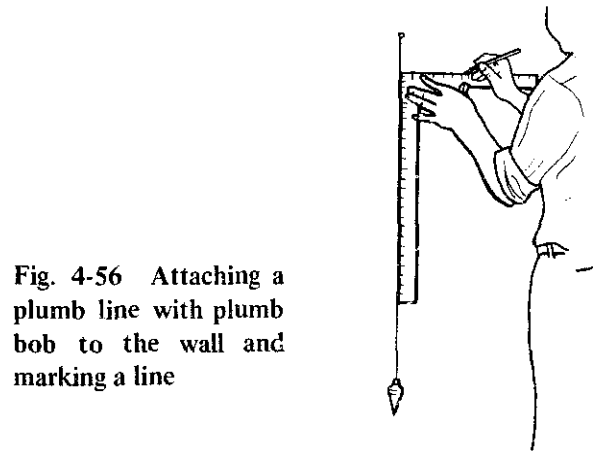

Fig. 4-56 Attaching a plumb line with plumb bob to the wall and marking a line
1. Attach a plumb line with plumb bob to the wall on which the level line is to be scribed as shown in figure 4-56.